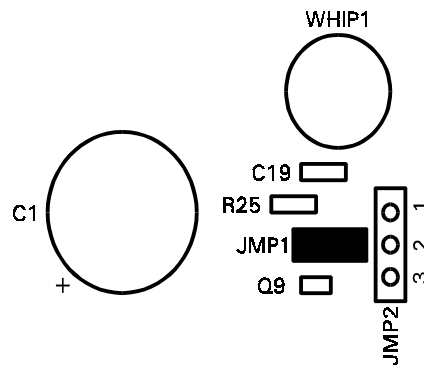
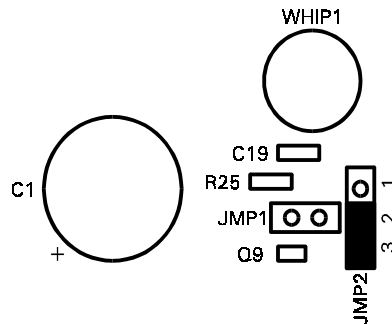

Figure 3
Figure 4
When JMP1 is "on" or active (Figure 3), the internal whip is not used and maximum external amplifier gain is selected. When only JMP2 is "on" or activated (Figure 4), external AUXILIARY ANTENNA gain is moderate. In both of these cases, the PRE-AMP switch either inserts (ON) or bypasses (OFF) the internal pre-amplifier (consisting of Q9 and Q10).
For maximum sensitivity, internal jumper JMP1 must be activated when an external noise antenna is used. Remove the shorting clip from JMP2 and place it on the JMP1 header as shown in Figure 3.
For moderate sensitivity, JMP2 must be activated. To activate JMP2 remove the shorting clip from previous position and place it across pins 2 and 3 of JMP2 (see Figure 4).
When the pre-amp is used with the external antenna (Figure 3 & 4) we recommend removing the internal telescoping antenna (WHIP) to ensure reception isn't compromised.